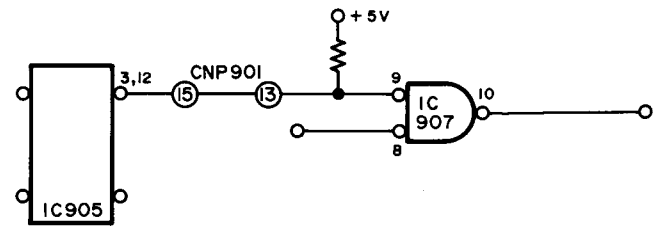

Figure 49-1
6. 6. 9 Inhibit Gate (Refer to Figure 49-1)